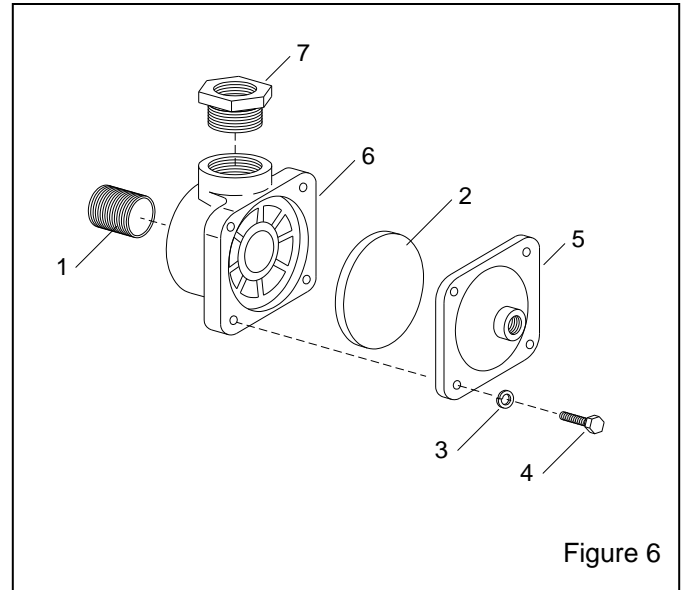

Figure 6
6.6 1" Diaphragm Outlet Valve Figure 6